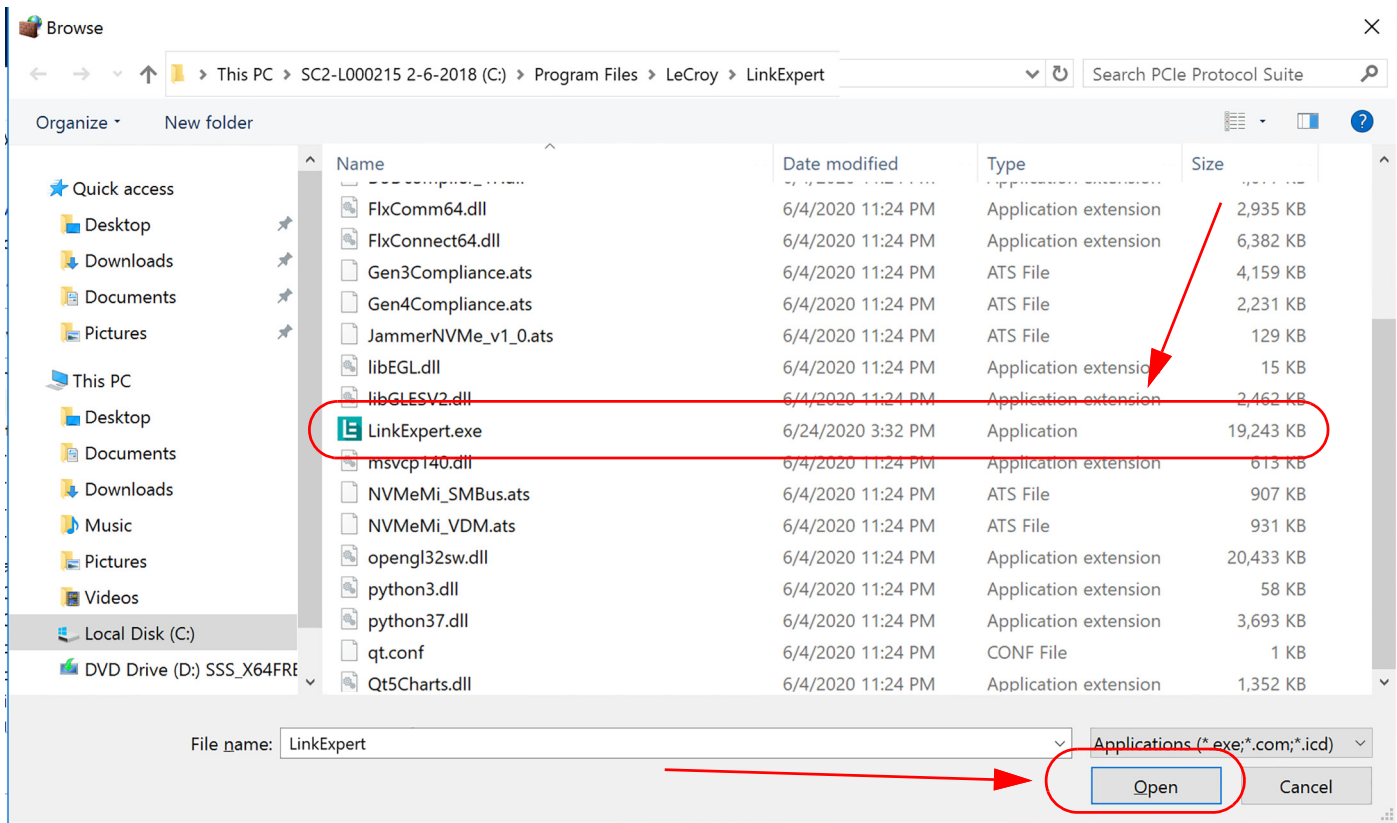

Figure 2.7: Windows Server 2016/2019: Browse to Find Application -> LinkExpert Application
7. In the Browse window navigate to the location of the installation directory for the LinkExpert you are installing. The Teledyne LeCroy LinkExpert is typically installed on your machine in the C:\Program Files\LeCroy\LinkExpert directory. See Figure 2.7.